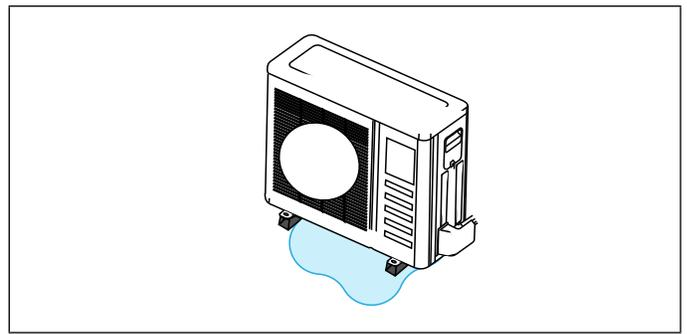

Figure 26. Avoid Defrost Water Ice Hazard
- Carefully consider how to manage defrost water disposal to prevent ice from blocking walkways or creating a safety hazard near the outdoor unit as illustrated in "Figure 26. Avoid Defrost Water Ice Hazard".